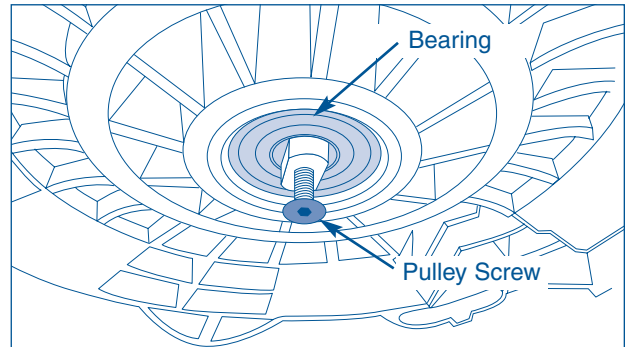

Figure 4-61.
15. To remove the spin basket, set the back half of the outer tub on its side, reinstall the screw that holds the large pulley on and tap the inner tub out with a rubber hammer. (See Figure 4-61)